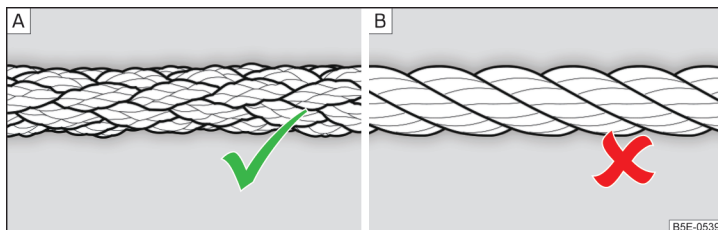

Fig. 328 Braided tow rope / Spiral tow rope
For towing using a tow rope, use only a braided synthetic fibre rope » Fig. 328 - A » **!**.
- Wound tow ropes must not be used for towing » Fig. 328 - B, the towing eye may unscrew out of the vehicle - risk of accident.